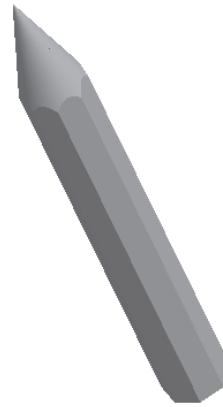

Figure 7-103 Model after creating the tip
5. Choose the **Build feature** button to complete the feature. The default trimetric view of the model, after creating the fourth feature, is shown in Figure 7-103.